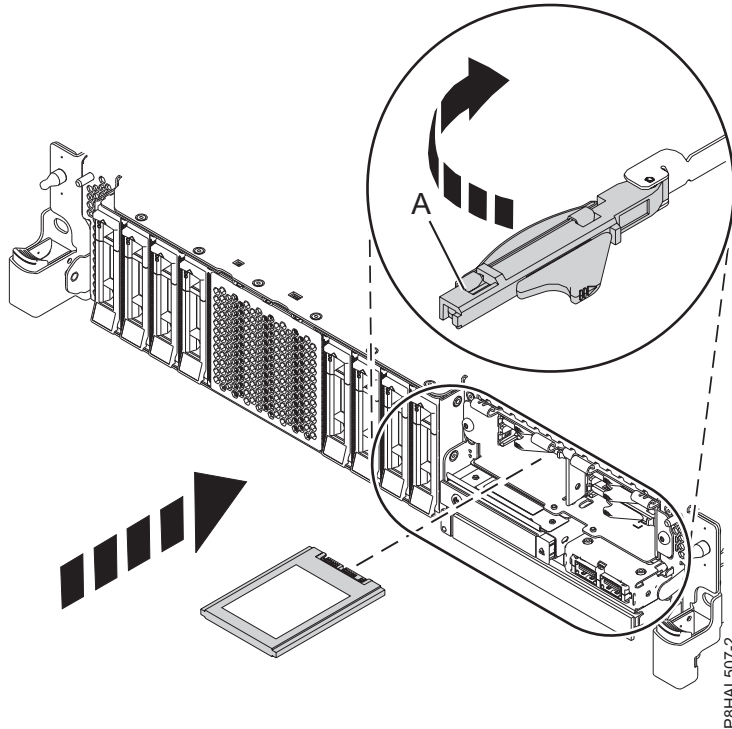

Figure 46. Replacing an SSD in an expanded function system
9. With the SSD drive bay handle (A) in the unlocked position, pull the lever outward to gain access to the guide rails in the SSD slot. Support the bottom of the SSD as you align it with the guide rails in the SSD slot. See Figure 46 on page 47.
11. Lock the drive by rotating the bay handle (A) in the direction that is shown in Figure 46.